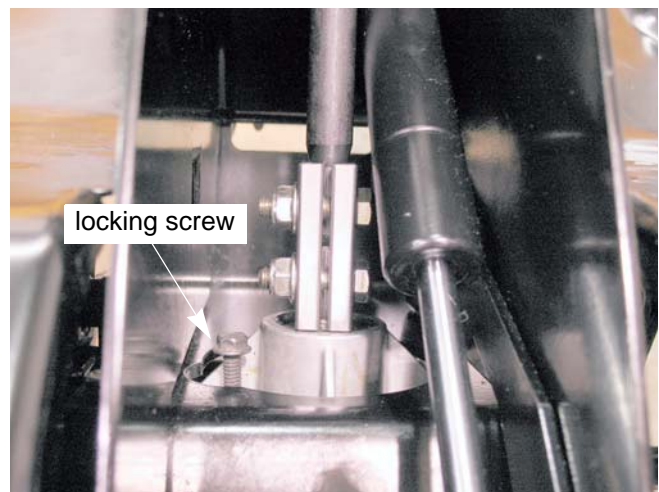

Figure 6.89
- 3a. Remove the 1/4"-20 plug screw from the steering gear box centering port using a 3/8" wrench. See Figure 6.89.